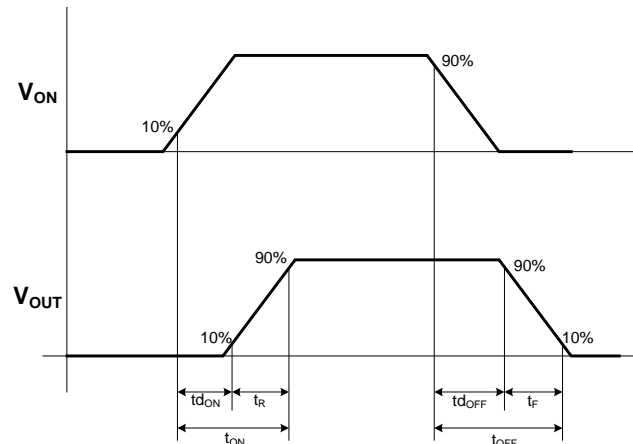

Figure 5. Timing Diagram
- $t_{DON}/t_{DOFF}/t_R/t_F$ are defined in Figure 5 below.